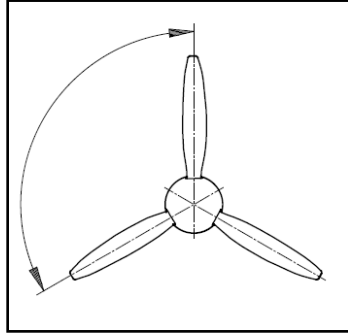

Fig. C-24 Angular separation of blades
- 2) Measure angular separation of blades (Fig. C-24). Permitted tolerance is $120^\circ \pm 30'$